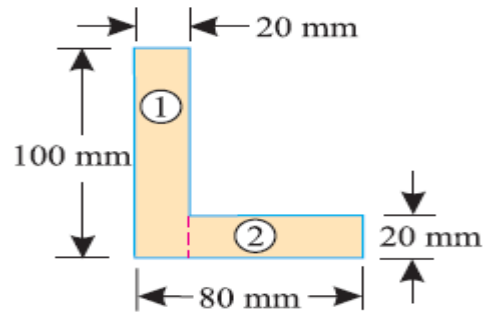

Fig.25
9. Find the moment of inertia about the centroidal X-X and Y-Y axes of the angle section shown in Fig.25 [L1] [12M]